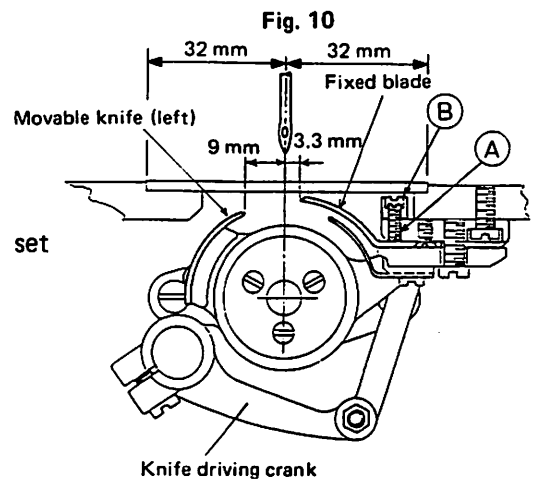
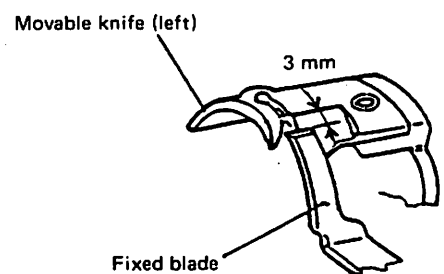

Fig. 11
Fig. 13
(1) Positions of movable knife (left) and fixed blade
- ① Fig. 11 shows the standard state, with the feed dial set to zero.
(3) Adjustment of knife engagement pressure
- ① The standard knife engaging pressure is obtained when the movable knife (left) and fixed blade start making contact with each other at the position shown in Fig. 13.
- ② When cutting action is poor especially because of thick thread, a slight increase of the engagement pressure produces an effect.
- ③ To adjust the engagement pressure, loosen the lock nut (B) in Fig. 11 and adjust with the adjust screw (A).